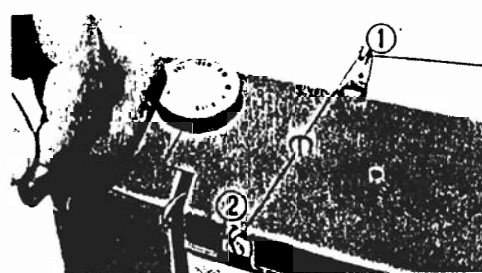
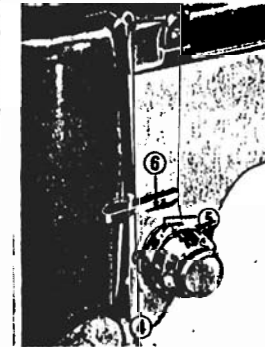

Fig. 10A
Fig. 10D
1. Turn the balance wheel by hand toward you until the take up lever is at highest point. See Fig. 10A.
2. Place a spool of thread on the spool pin. Pass the thread through the upper thread guide (rear) ① and upper thread guide (front) ② and down between the upper thread tension discs ③ from the right hand side. See Fig. 10A, B.
3. Now bring the thread up and under the thread check spring ④ raising it (check spring) so that the thread will fall into the hook shaped guide ⑤.
4. Carry the thread under the thread guard bar ⑥ from right to left and then up to and into the eye of the thread take up lever ⑦ from right to left and down through the upper thread guard bar ⑧ and the thread guide ⑨. See Fig. 10D.